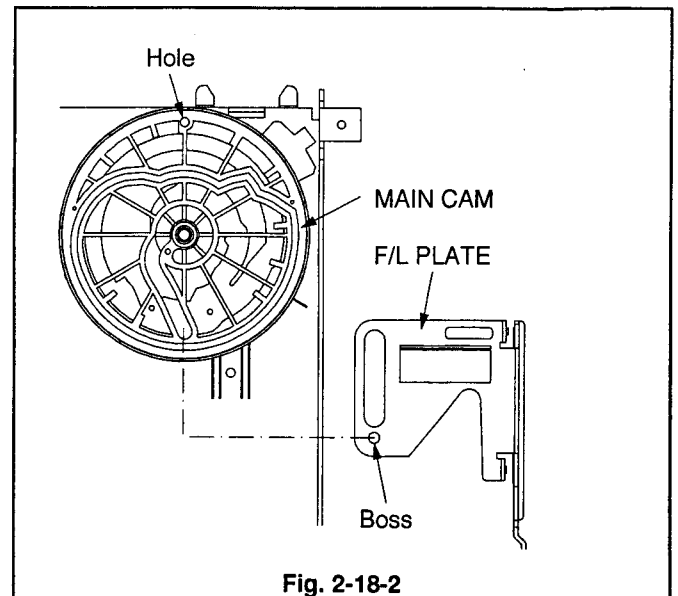

Fig. 2-18-2
5. Match the Hole in the MAIN CAM with the Hole in the MAIN PLATE ASSY shown in the Fig. 2-18-2.
7. Insert the Boss of the F/L PLATE shown in the Fig. 2-18-2 into the Groove of the MAIN CAM.